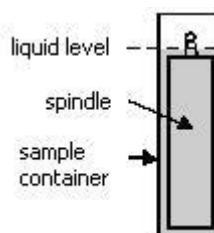

Fig. 11: Full LCP adapter.
- Close the sample (K) container with the stopper (M).
- Insert the container (K) to the lower part, in the circulation jacket (J) by turning it gently.
- Fasten the circulation jacket (J) to the connector (G).
- Connect the hook (H) and the spindle (L)
- Insert the spindle (L) in the circulation jacket (See the note * below)
- Fasten the connector (G) to the hole in the back of the viscometer's metallic base. **(See the note ** below)**
- Check the level of the sample. It should be approximately in the middle of the cone, which is connected to the spindle connector (H). Figure 11 shows more information about this.
- Place the upper stopper (N) over the sample container.